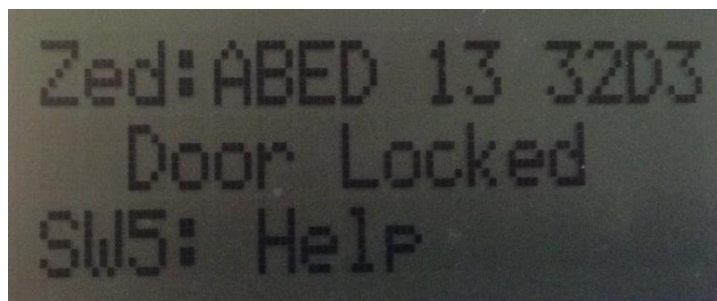

Figure 24: SampleDoorLockController showing status of SampleDoorLock
3. Once the devices have been successfully paired, door lock toggle command can be sent from the controller to the door lock by pressing SW1 (**Figure 24**)